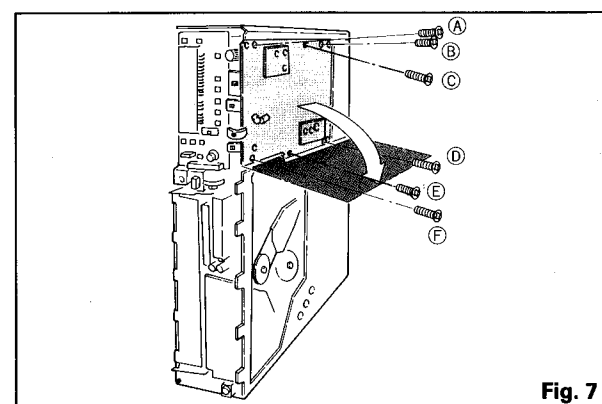

Fig. 7
- Remove the six screws (A, B, C, D, E, and F) retaining the PCB-Y/A as shown in Fig. 7.